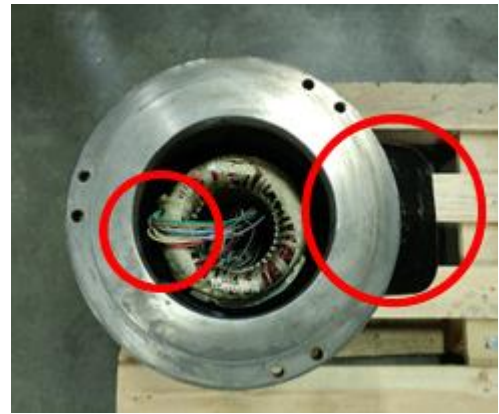
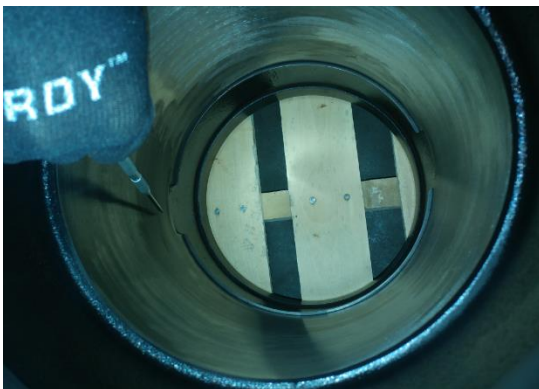
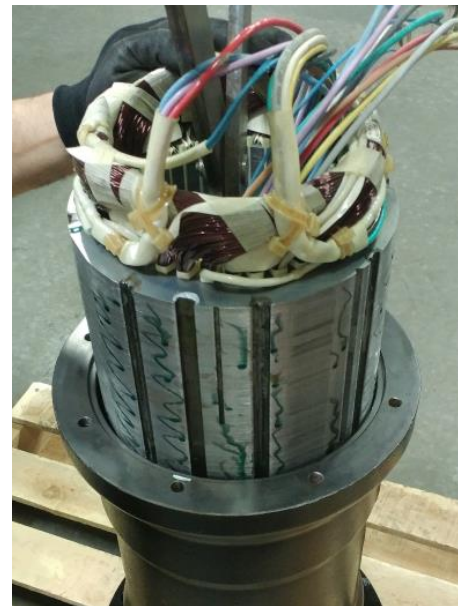

Figure 3
Figure 4
Figure 5
- Position new stator so wire bundles are in original location (marked in step #1). If you are unsure of the original location, on T motors, the wire bundle should be opposite of the cable entry (Figure 3). On P motors and larger, locate the gap in the shoulder at the bottom of the motor housing (Figure 4). Line up the slot in the stator iron with this gap (Figure 5). You will use this gap to pass the oil chamber seal probe wire through.